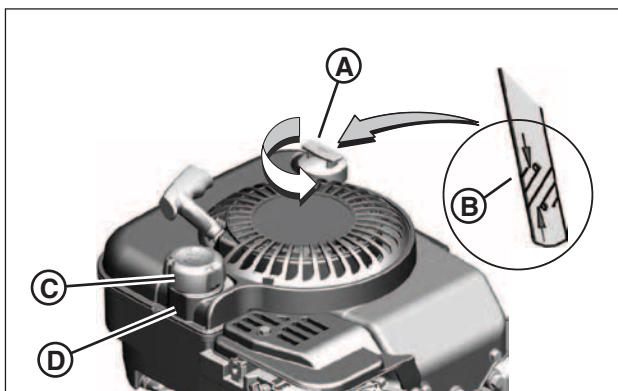

Figure 5: Oil and fuel fill
- Remove the dipstick (**A**, Figure 5) and wipe with a clean cloth.
- Remove the fuel fill cap (**C**, Figure 5).